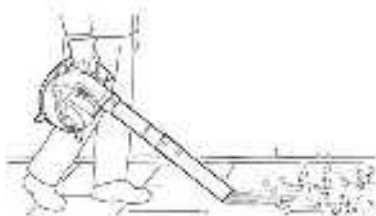

Fig. 19
- > Hold the nozzle (21, 22) approximately 10 cm above the ground / leaves and walk slowly forward using a sweeping motion from side to side (Fig. 19).